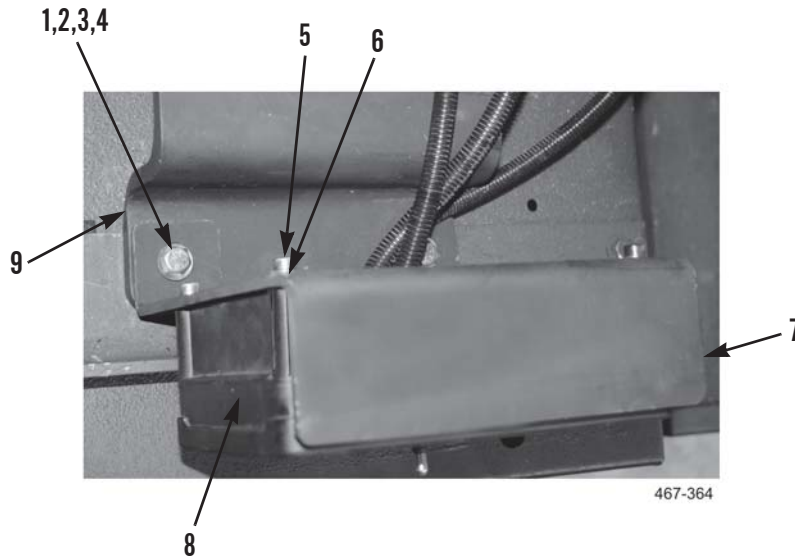

Figure 6. HEMTT Stowage Control Unit Installation.
1. Install stowage control unit (Figure 6, Item 8), four washers (Figure 6, Item 6), and bolts (Figure 6, Item 5) on stowage control unit bracket (Figure 6, Item 7).
2. Install stowage control unit bracket (Figure 6, Item 7), two washers (Figure 6, Item 2), bolts (Figure 6, Item 1), washers (Figure 6, Item 3), and new locknuts (Figure 6, Item 4) on hydraulic control bracket (Figure 6, Item 9).